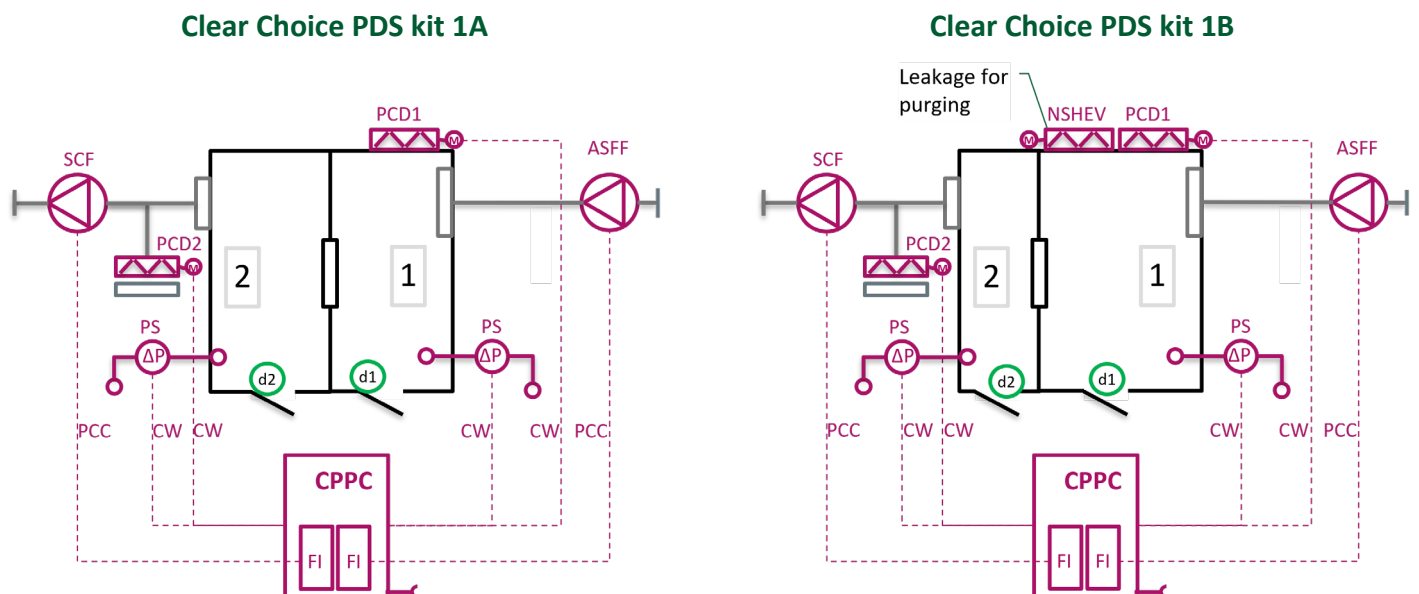

Figure 4 Overview of PDS kit 1A & 1B
- Active supply system (Zone 1, Figure 4 Overview of PDS kit 1A & 1B) consists of supply fan, pressure control damper and pressure sensor/control. Compared to kit 1A, kit 1B allows for a permanently open vent between the pressurised space and the exterior for purge ventilation throughout the operation of the PDS.
- Active air release system (Zone 2, Figure 4 Overview of PDS kit 1A & 1B) consists of smoke control fan, pressure control damper and pressure sensor/control.
Key for Figure 4